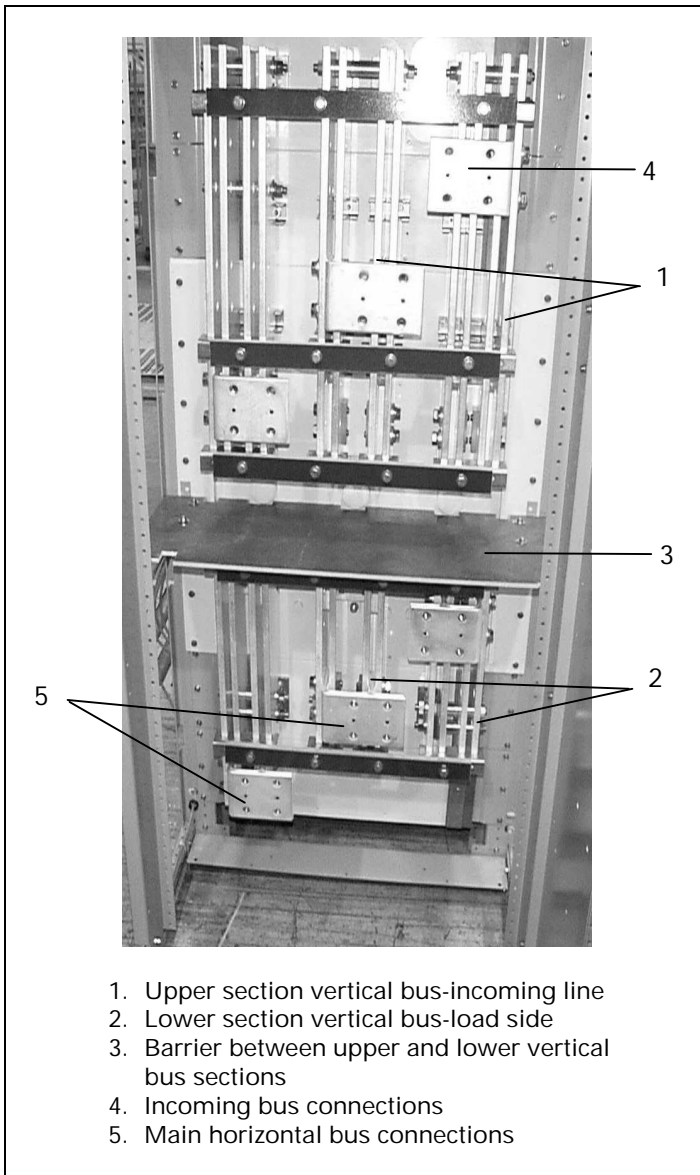

Fig. 3-15. Main breaker bus arrangement
The typical arrangement is shown in Fig. 3-15.
On main and tie breakers, the bus area, Fig. 3-15, is divided into an upper (1) and lower (2) section by a glass reinforced polyester isolation barrier (3). For typical unit substation main circuit breakers, the upper section contains the incoming line bus (4). The lower section of the bus area contains the load side main bus (5) (protected by the main breaker) that feeds all sections of the switchgear equipment. Similarly, barriers at tie breakers isolate the two main bus sections from each other.